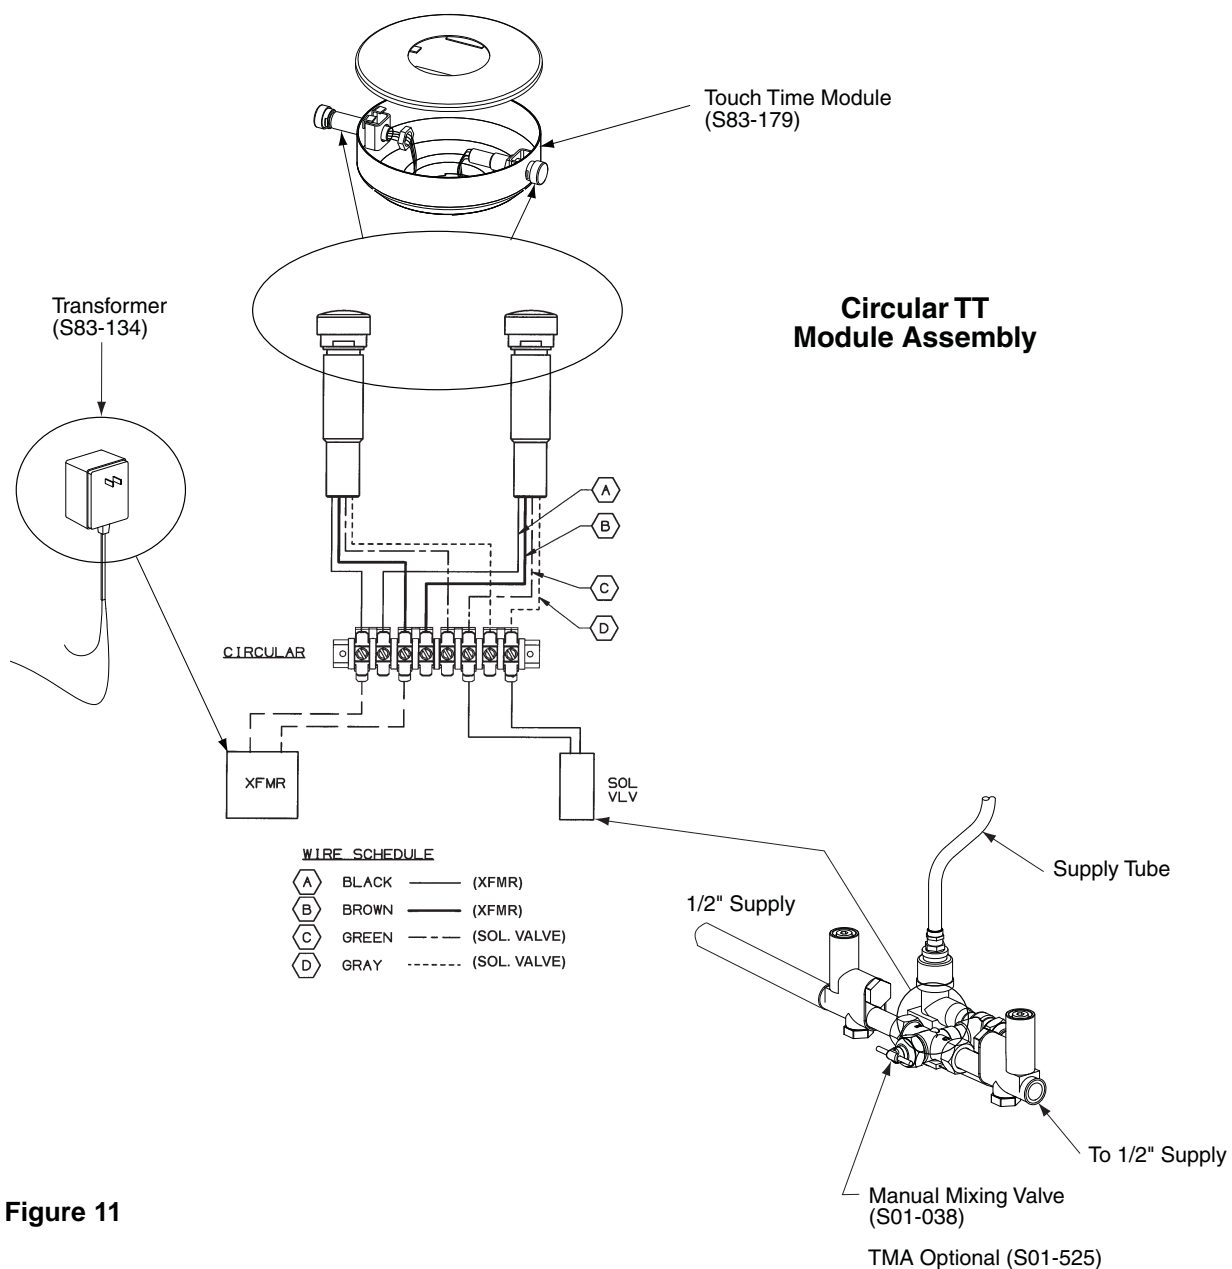

Figure 11
5. Connect the eight wires from the two Touch Time switches in the Touch Time module assembly to the terminal block as shown in Figure 11 on Page 16.
4. Connect the eight wires from the two Touch Time switches in the Touch Time module assembly to the terminal block as shown in Figure 11 on Page 16.
2. Connect the two transformer wires, and the two wires from the solenoid valve to the terminal block. (The eight wires from the two Touch Time switches which were previously connected in Step 5). See Figure 11.
- c. Connect the volt meter leads from the transformer as shown in Figure 11 on page 16.
4. Test the solenoid valve following the procedure outlined below (see Figure 11 on page 16):